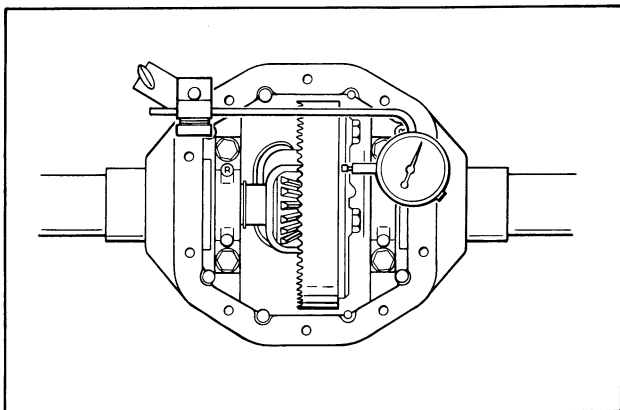

Figure 19 – Ring Gear Runout Check
- e. Check "ring gear runout" with dial indicator, Figure 19. Place contact point of dial indicator on back face of ring gear. Rotate ring gear one complete revolution. Maximum runout is .006 in. (.15 mm). Reading in excess of specification indicates loose or warped ring gear, dirt or burr on ring gear mounting surface, or sprung differential case.